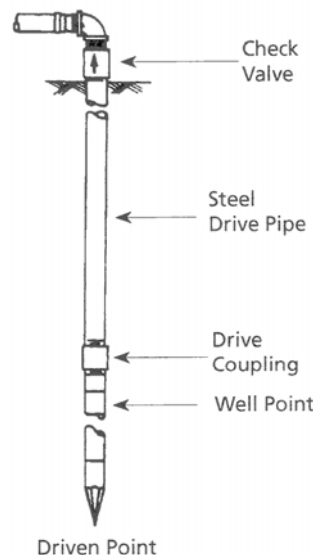
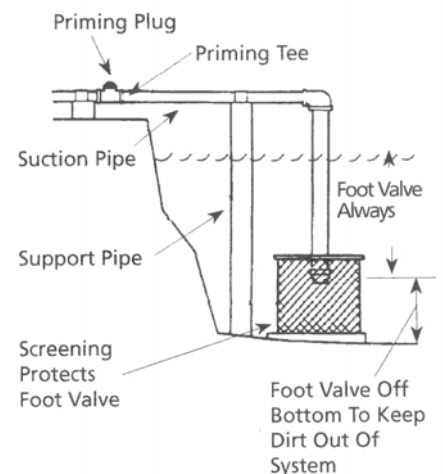

Figure 6- Driven point installation
Figure 7-Lake installation
1. Connect the suction pipe to the drive point as shown in Figure 6. Keep horizontal pipe run as short as possible and use PTFE tape on male pipe thread.
2. Install a check valve in suction pipe, and the flow arrow must point toward pump (Figure 6).
2. To aid priming on well point installations when the horizontal piping is longer than 25 feet, install a line check valve and make sure the flow arrow points toward pump, see Figure 7.
IMPORTANT: For long horizontal pipe runs, install a priming tee between check valve and well head as shown in Figure 7. For driven point installation, when the horizontal piping is more than 25 ft long, install a check valve as shown in Figure 6. Make sure check valve flow arrow points toward pump. See "Well Pipe Installation" (See pages 12&13) for more information.